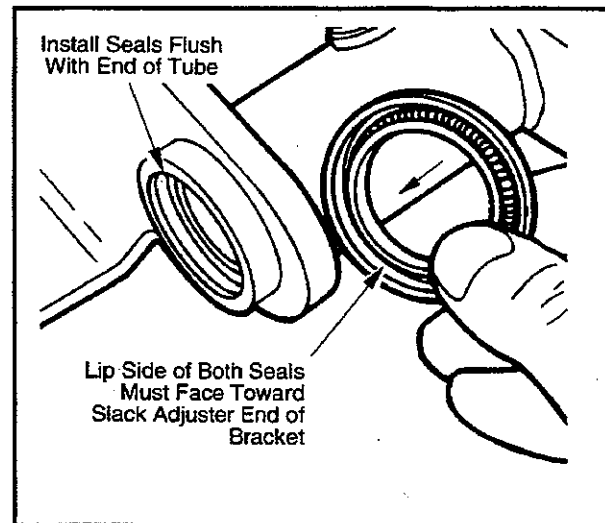

Figure 45—Install Grease Seals
4. Install new grease seals with a suitable piloted driver so seals are flush with end of air chamber bracket tube. (See Figure 45—Install Grease Seals.)